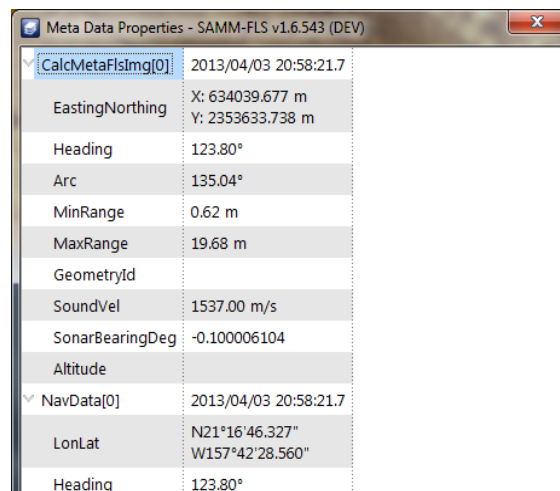

Figure 89. Meta data properties window
2. Expand each item to view detailed information (Figure 89).